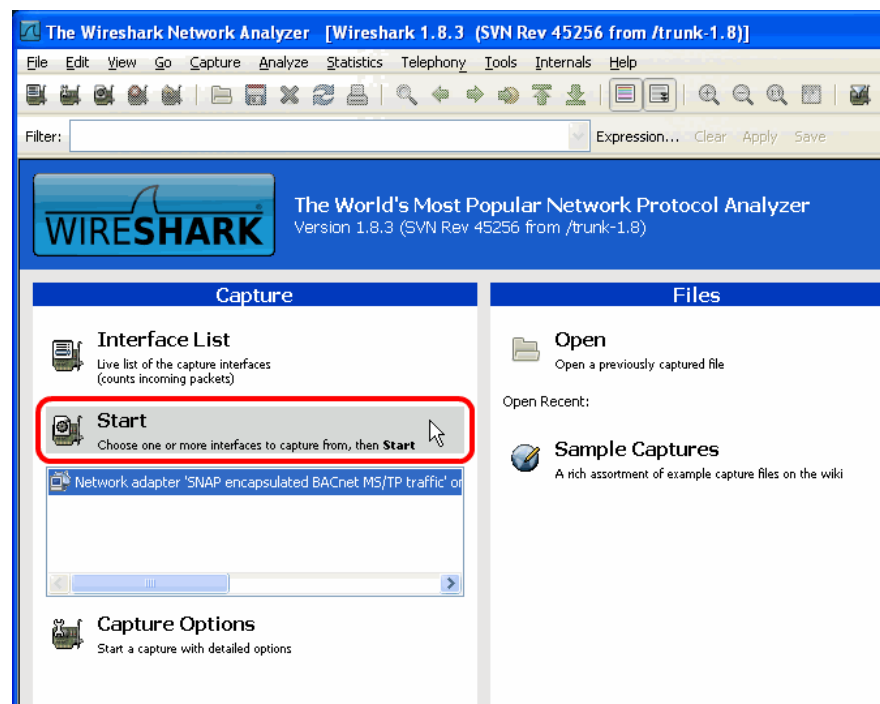

Figure 35: Start Remote Capture in Wireshark.
2. Click the **Start** button as shown in Figure 35.